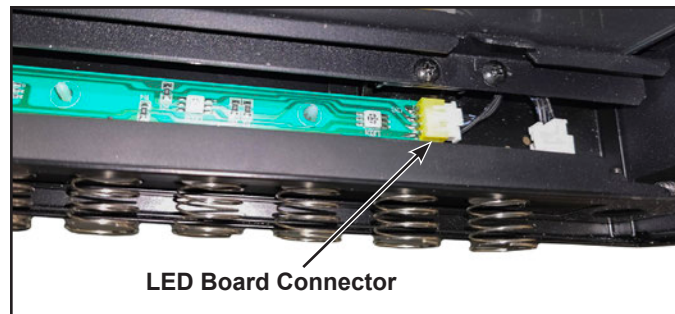

Figure 6 Ember Bed LED Board Connector
2. Locate the ember bed LED board cable and unplug the wire connector from the LED board connecting the board to the appliance. See Figure 6.